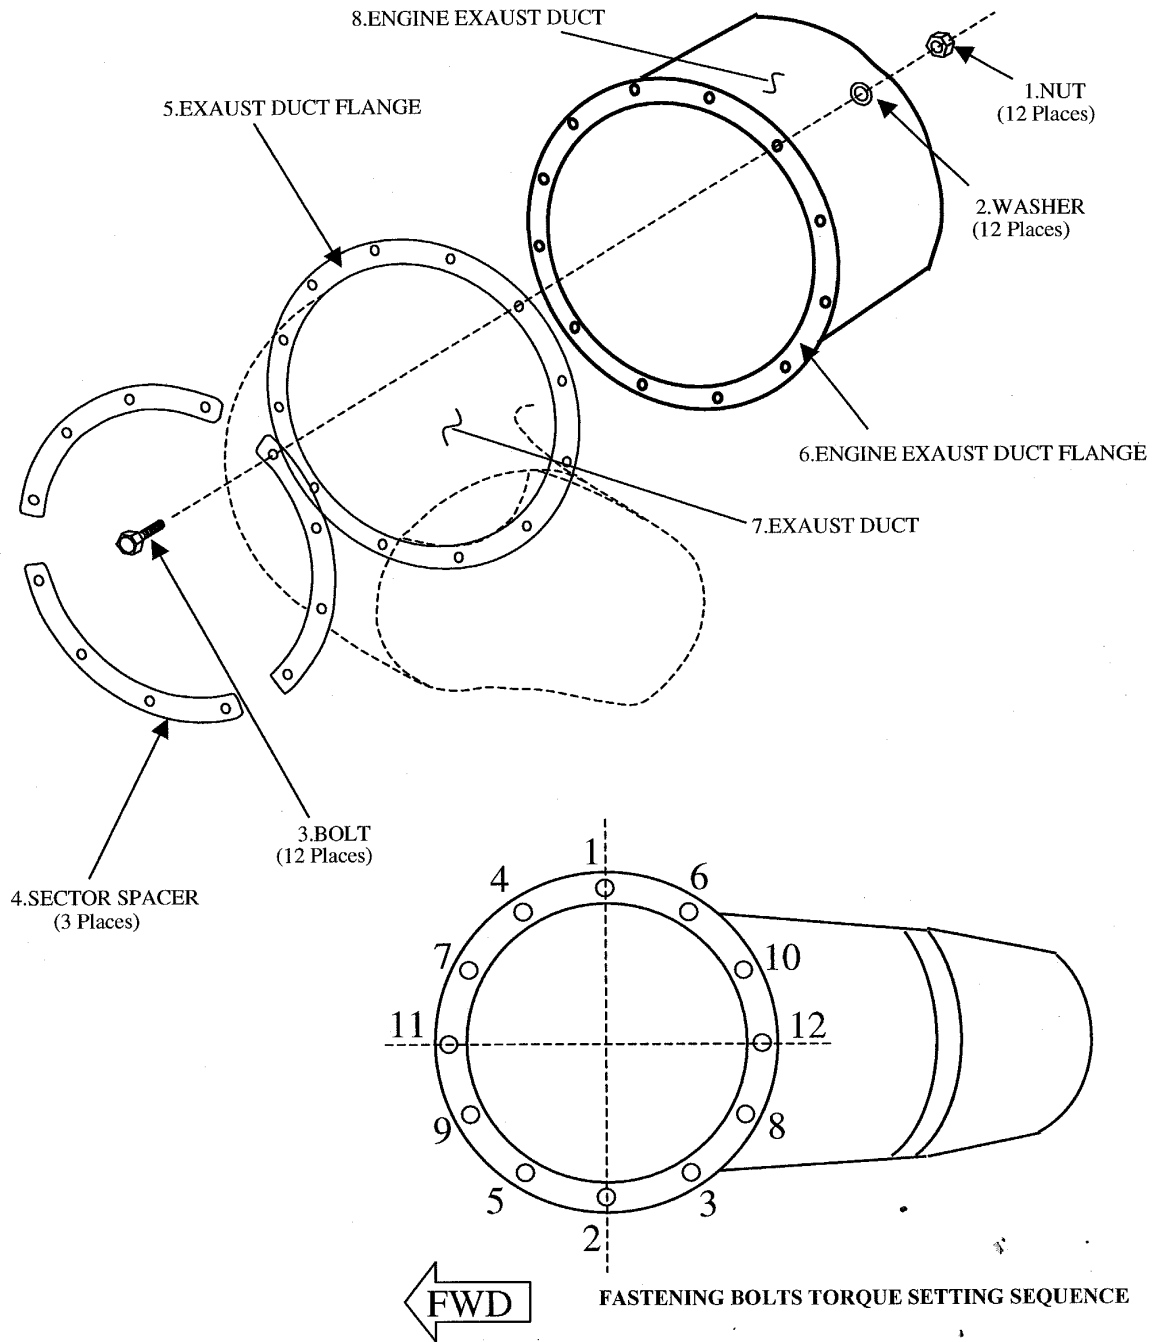

Fig. 201 - Exhaust Stacks - Removal/Installation (Sheet 2 of 2)
3. Exhaust Duct - Installation(Ref. Fig. 201)